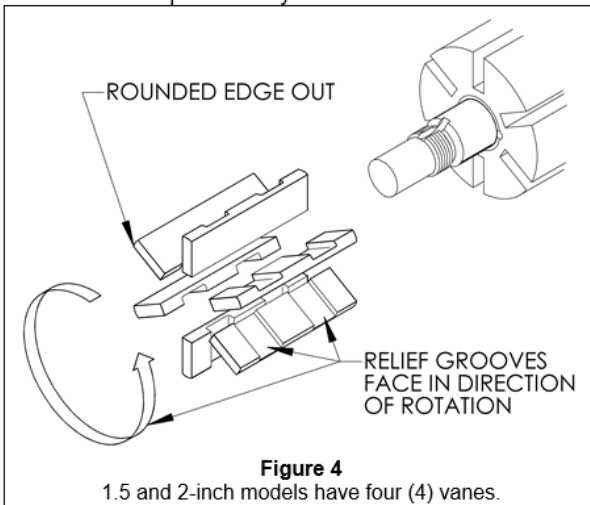

Figure 4
3. Install a new vane, ensuring that the rounded edge is UP, and the relief grooves are facing towards the direction of rotation. See Figure 4.
5. Hand pack the ball bearing (24) with grease. Refer to the "Lubrication" section for the recommended grease.
8. Inspect the vanes (14) and push rods (77) for wear and damage, and replace as follows:
- a. Partially install the non-driven end of the rotor and shaft (13) into the open side of the pump cylinder.
- b. Leave part of the rotor outside of the cylinder so that the bottom vanes can be installed and held in place as the push rods are installed in the push rod holes of the rotor. Insert the new vanes into the rotor slots with the rounded edges outward, and the vane relief grooves facing TOWARDS the direction of rotation. See Figure 4.
- c. After the bottom vanes (14) and push rods (77) are installed, insert the rotor and shaft (13) fully into the cylinder (12).
9. Install the inboard head (20), mechanical seal, and bearing as instructed in steps 2 through 7. Apply a thin coating of motor oil on the inboard shaft to aid installation.